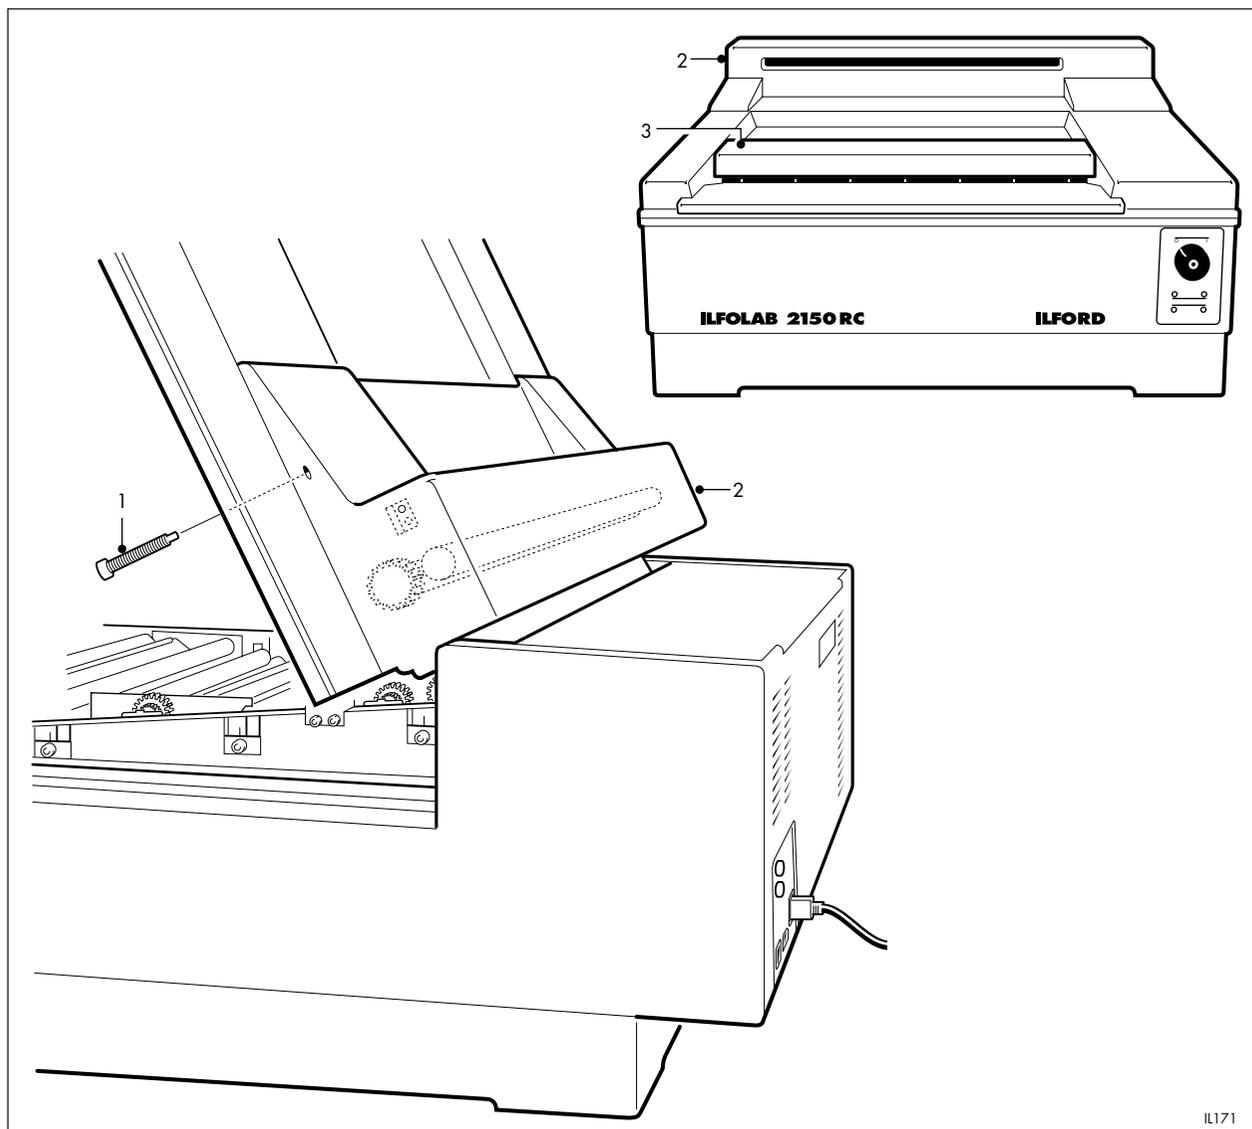

Figure 3.4
See figures 3.4 and 3.5.
- Figure 3.4**